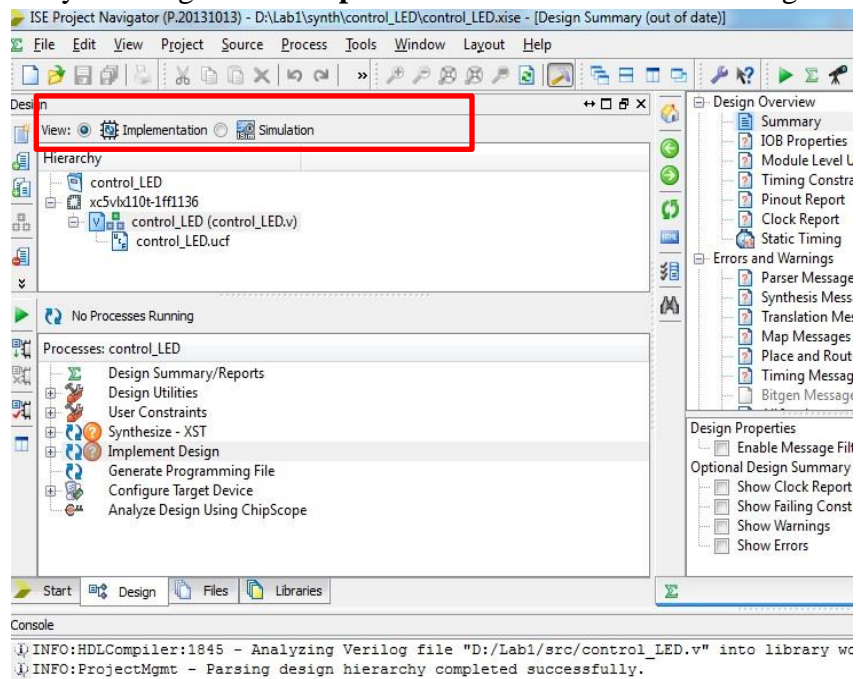

Fig.3. Implementation View
21. You should see your design under **Implementation** view as shown in Fig. 3.
32. Go back to **Implementation** view. Now, you will proceed to synthesizing your design now that you have verified your design for functional correctness using functional simulation. You will see Fig. 3 again.